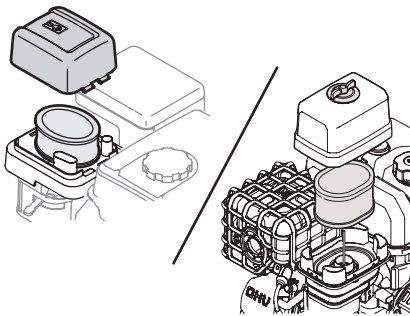

Figure 11
1. Press the tab on the air filter cover and lift the cover, or un-thread the thumbscrew, depending on the model of engine (Figure 11).